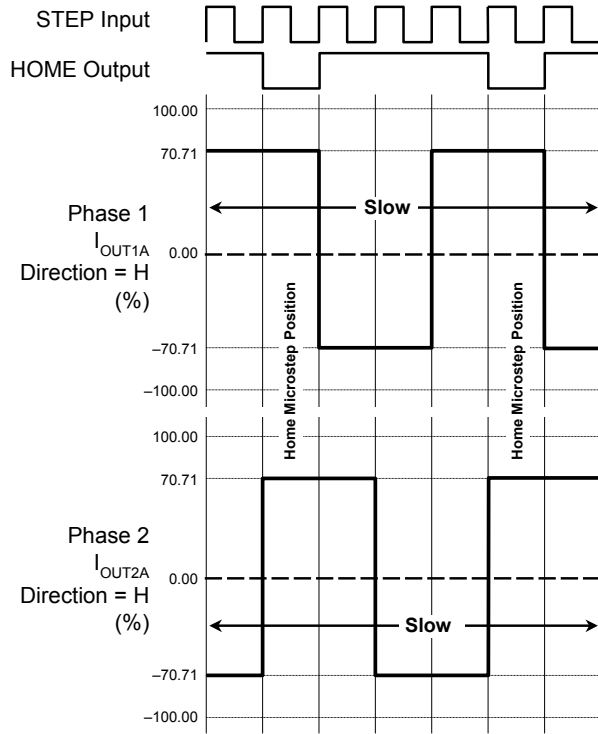

Figure 2. Decay Mode for Full-Step Increments
At power-on or reset, the translator sets the DACs and the phase current polarity to the initial Home state (shown in figures 2 through 5), and the current regulator to Mixed decay mode for both phases. When a step command signal occurs on the STEP input, the translator automatically sequences the DACs to the next level and current polarity. (See table 2 for the current-level sequence.) The microstep resolution is set by the combined effect of inputs MS1 and MS2, as shown in table 1.
**RESET Input (  $\overline{RESET}$  ).** The  $\overline{RESET}$  input (active low) sets the translator to a predefined Home state (shown in figures 2 through 5), and turns off all of the DMOS outputs. The HOME output goes low and all STEP inputs are ignored until the  $\overline{RESET}$  input is set to high.
**Home Output (HOME).** The HOME output is a logic output indicator of the initial state of the translator. At power-on, the translator is reset to the Home state (shown in figures 2 through 5).
**Mixed Decay Operation.** If the voltage on the PFD input is between  $0.6 \times V_{DD}$  and  $0.21 \times V_{DD}$ , the bridge operates in Mixed decay mode, as determined by the step sequence (shown in figures 2 through 5). As the trip point is reached, the device goes into Fast decay mode until the voltage on the RCx terminal decays to the same level as voltage applied to the PFD terminal. The time that the device operates in fast decay is approximated by: